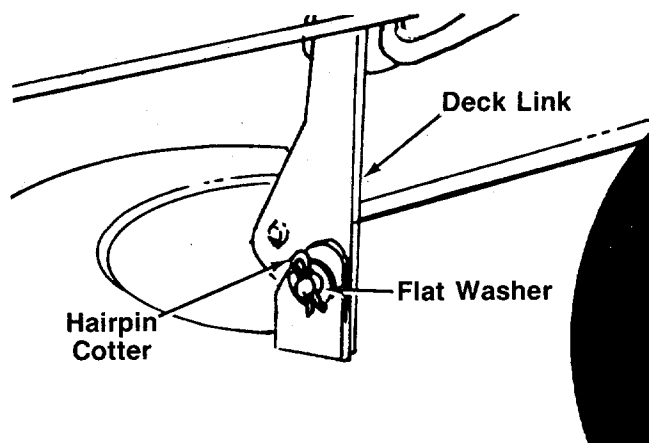

FIGURE 5.
9. Remove the three hairpin cotters and flat washers which hold the deck links to the rider. Two are located at the rear of the deck. See figure 5. One is located at the front of the deck.